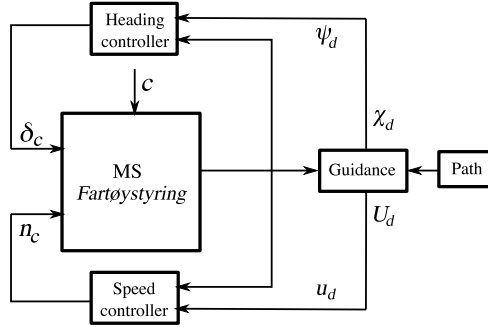

Figure 4: Controller structure for Section 2, Tasks 2.1–2.4.
**Task 2.3.** Use the guidance system outputs as reference signals for the heading and speed autopilots, by directly assigning  $\psi_d = \chi_d$  and  $u_d = U_d$  (see Figure 4). Simulate the system until you think the MS *Fartøystyring* is sufficiently close to the final way-point. Plot the behavior of the closed-loop system with the included *Matlab* function *pathplotter.m*. Include both figures in your hand-in.